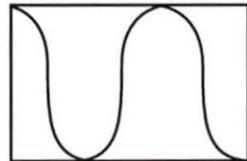

Figure 62. Flow Sensing Element Symbol
1. Determine what type of pressure sensing element symbol is shown in figure 62.